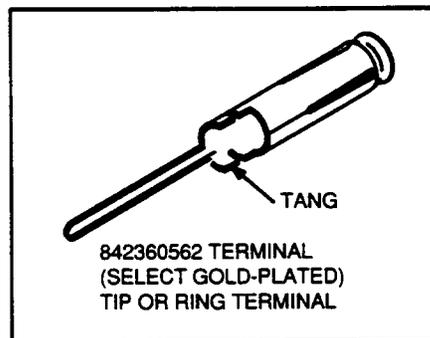

Figure 14. Tip or Ring Terminal
4.07 To remove the 842360562 tip or ring terminal (Figure 14), proceed as follows: